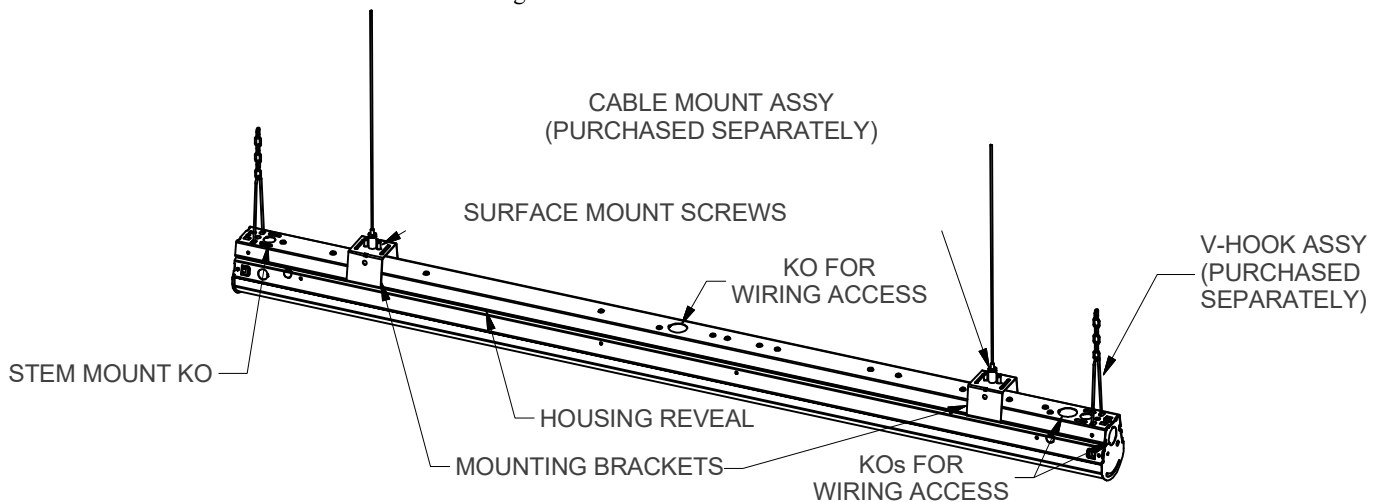

FIGURE 1: STAND ALONE CONFIGURATION
- 3) To install with HANGER BRACKETS (See FIG.1):
- B. Remove stem mount KOs shown in Fig 1 at each end of fixture